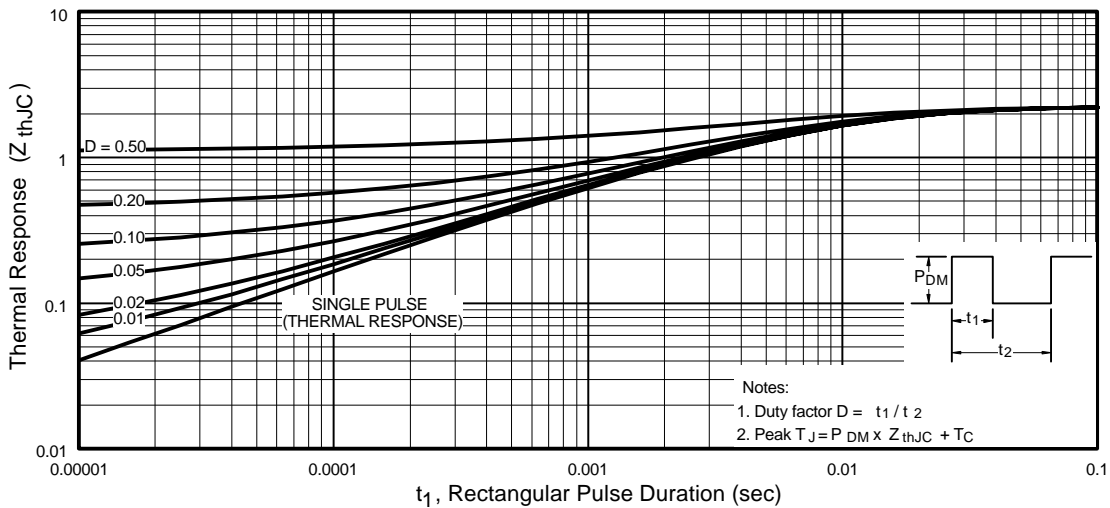

Fig 11. Maximum Effective Transient Thermal Impedance, Junction-to-Case
- ① Repetitive rating; pulse width limited by max. junction temperature. (See fig. 11)
- ② $V_{DD} = 25V$, starting $T_J = 25^\circ\text{C}$, $L = 410\mu\text{H}$